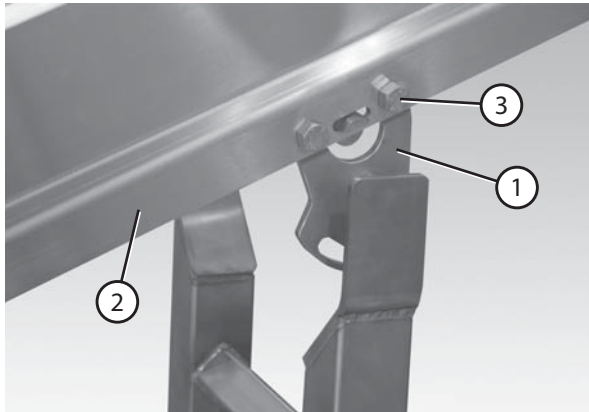

Figure 7
- Attach the bracket (**Figure 7, item 1**) to the conveyor (**Figure 7, item 2**) using four M10-1.5 x 12 mm hex head cap screws (**Figure 7, item 3**).
- Tighten the four M10 screws (**Figure 7, item 3**) to 80 in•lb (9 N•m).
- Adjust the bracket angle on the slotted brackets (**Figure 7, item 1**) to match the conveyor angle and tighten the screws to 50 ft•lb (72 N•m).